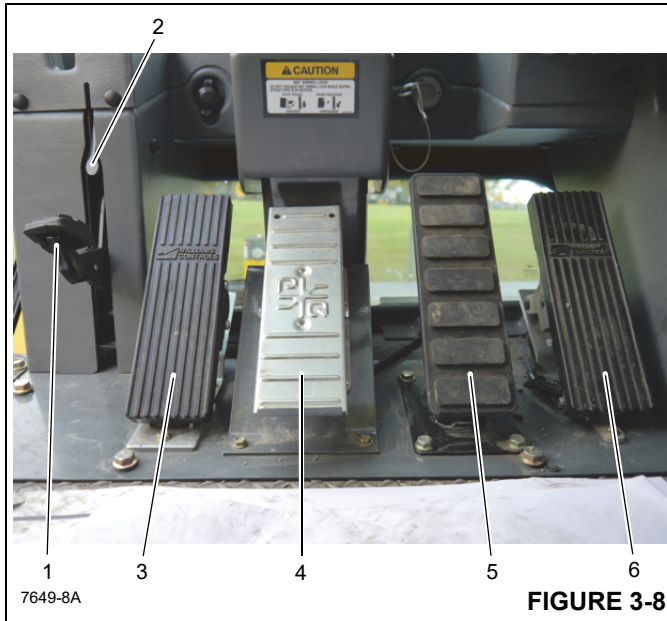

FIGURE 3-8
The 360° Swing Lock Pedal (1) (Figure 3-8) is located on the left side of the cab floor. The pedal activates the swing lock to prevent superstructure from turning. To release the swing lock, pull up the 360° Swing Lock Release Lever (2).
The Swing Brake Pedal (3) (Figure 3-8) is located on the left side of the cab floor. It actuates the swing brake to slow or stop swing motion. Braking increases or decreases proportionately with the amount of foot pressure applied to the pedal.
The Telescope Control Pedal (4) (Figure 3-8) is located in the middle of the cab floor. Pushing top of pedal extends the boom. Pushing bottom of pedal retracts the boom.
The Service Brake Pedal (5) (Figure 3-8) is the second pedal from the right on the cab floor. Pressing the pedal controls application of the service brakes.
The Foot Throttle Pedal (6) (Figure 3-8) is located on the right side of the floor. It controls engine RPM which increases or decreases proportionately with the amount of foot pressure applied to the pedal. The pedal is electrically connected to the superstructure control module which sends the signal to the engine ECM via the J1939 data link.